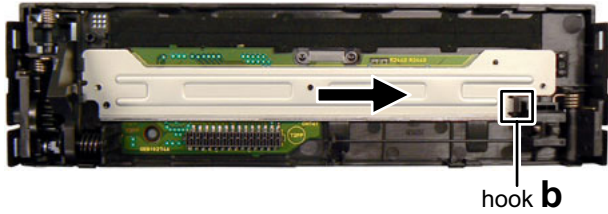

Fig.8
- (2) Disengage one hook **b** engaged connector bracket and slide to right ward and the take out the connector bracket. (See Fig.8)
- (3) From the reverse side of the disc plate, remove the screw **D** attaching the PHOTO BOARD assembly. (See Fig.8.)